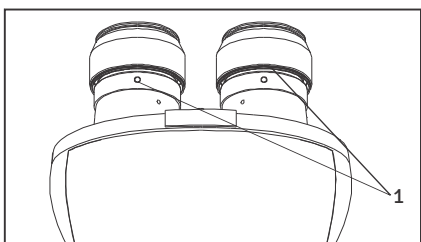

Fig.10
2. Insert 10x eyepieces into the ocular sleeve and tighten the clamping screw (1) using allen wrench 1.2mm. See figure 10.